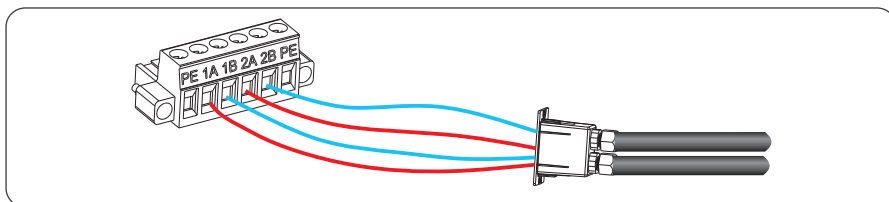

Figure 5.19 RS485 Terminal block connection
**Step 4** Connect RS485 differential positive and negative signal of data logger to terminal 1A and 1B of inverter, and connect terminal 2A and 2B of the inverter to terminal 1A and 1B of another inverter. Figure 5.19.